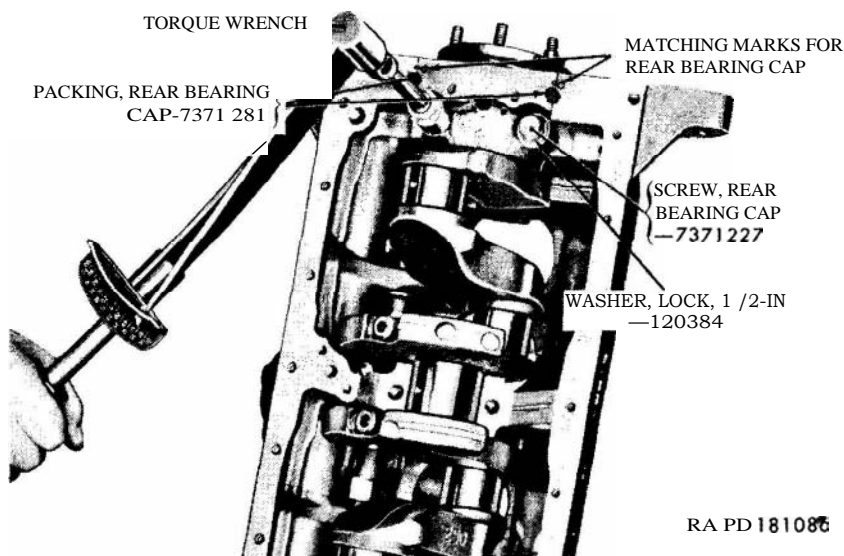

Figure 75. Installing rear bearing cap.
either side of the rear bearing cap (fig. 75). The ends of the packing should protrude approximately one-fourth of an inch. Do not cut them off because when the oil pan is installed, it forces the packing further into the holes to effectively seal this area against oil leaks.
h. Secure the rear bearing cap in place with two $\frac{1}{2}$ -inch lockwashers (fig. 75) and two rear bearing cap screws. Tap the bearing cap to align the matching marks on the bearing cap with those on the cylinder block. Tighten the cap screws to 65 to 70 pound-feet torque.